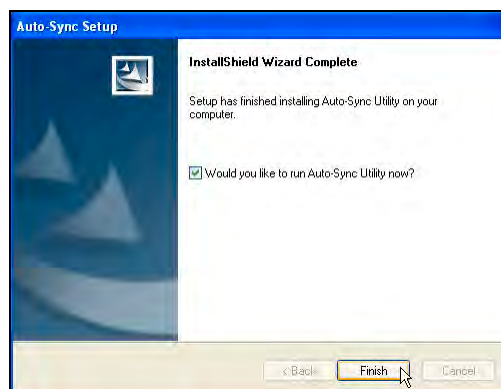

Figure 5-3. Finish Install of Auto-Sync Utility.
3. When the "InstallShield Wizard Complete" screen appears, click on the **Finish** button to end installation and launch the utility, if checked (see Figure 5-3).